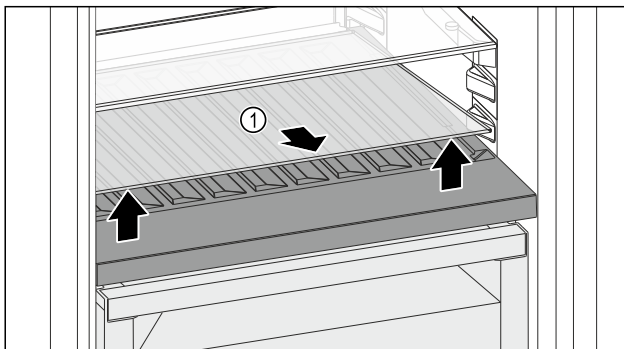

Fig. 162
- Lift the glass shelf Fig. 162 (1) at the front and remove.
- Store the glass shelf Fig. 162 (1) in a safe place outside the appliance.